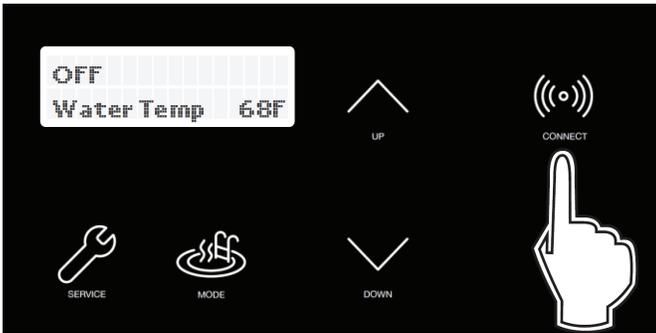

Figure 70. CONNECT Key
- Stand near the display of the Crosswind V unit. Press the CONNECT key. See Figure 70.